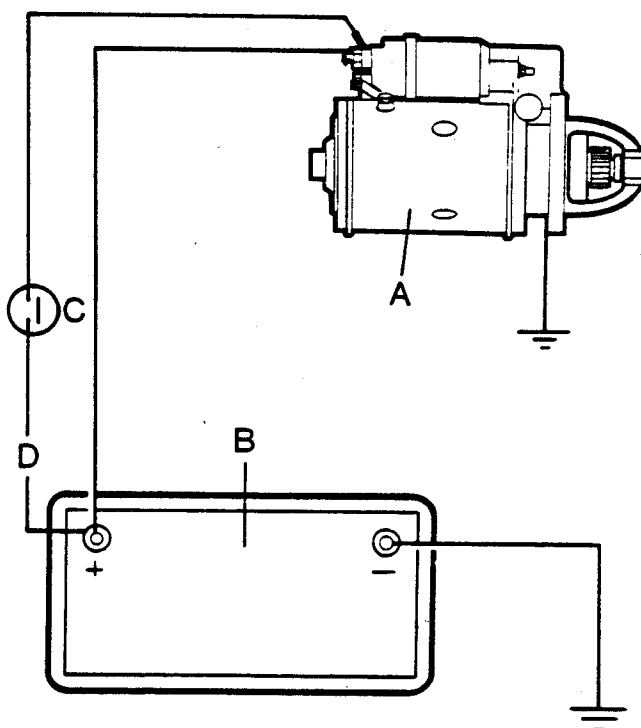

Figure H73
1. Connect a new switch in between the solenoid and the battery positive terminal as shown in Figure H73.